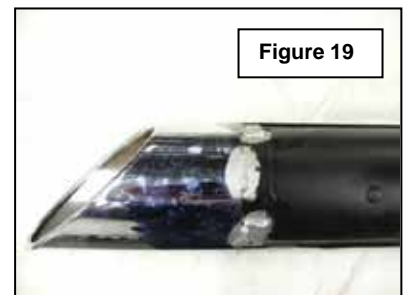

Figure 19
- b. Clean cut areas for installation of supplied tips later. Figure 19.